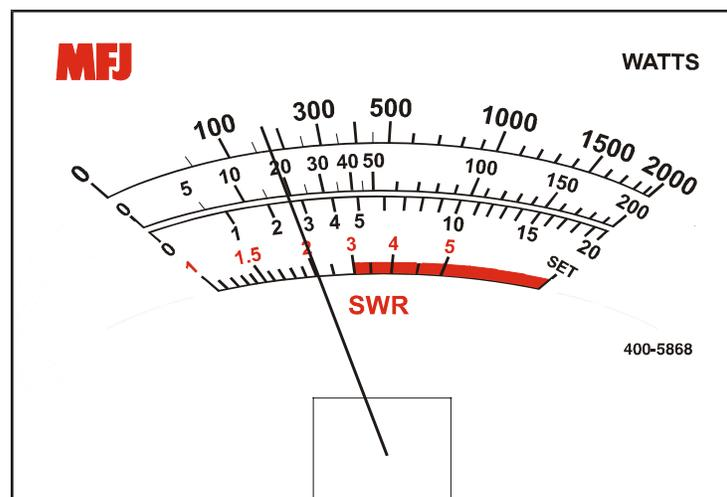

Figure 2: Power and Standing Wave Ratio Scales for MFJ-868B Giant SWR/Wattmeter
1. The MFJ-868B Giant SWR/Wattmeter has three power scales. Refer to Figure 2 below for scale location and scale mark representation.
1. The **MFJ-868B Giant SWR/Wattmeter** has one standing wave ratio scale. Refer to Figure 2 above for scale location and scale mark representation.